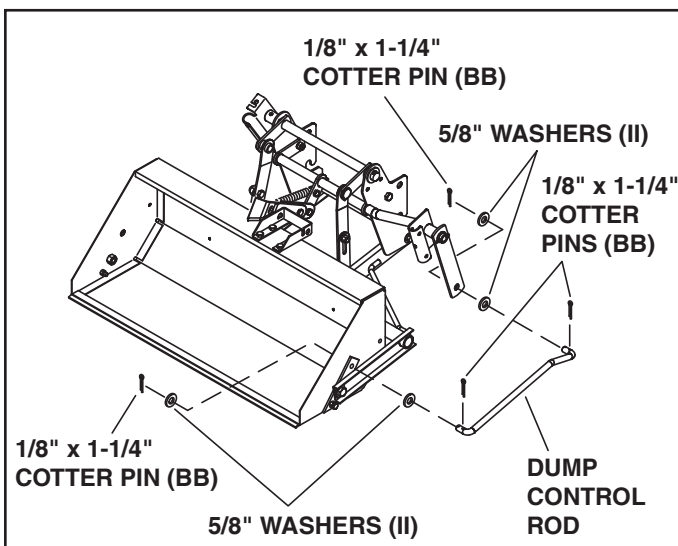

FIGURE 9
STEP 10: INSTALL DUMP CONTROL ROD (SEE FIGURE 9)
- Install a 1/8" x 1-1/4" cotter pin (BB) into the inside hole in each end of the dump control rod. Spread the ends of the cotter pins and wrap around the rod. Install a 5/8" washer (II) onto each end of the control rod.
- Install the dump control rod to the dump pivot bracket and bucket. Fasten using two 5/8" washers (II) and 1/8" x 1-1/4" cotter pins (BB). Spread the ends of the cotter pins and wrap around the rod.